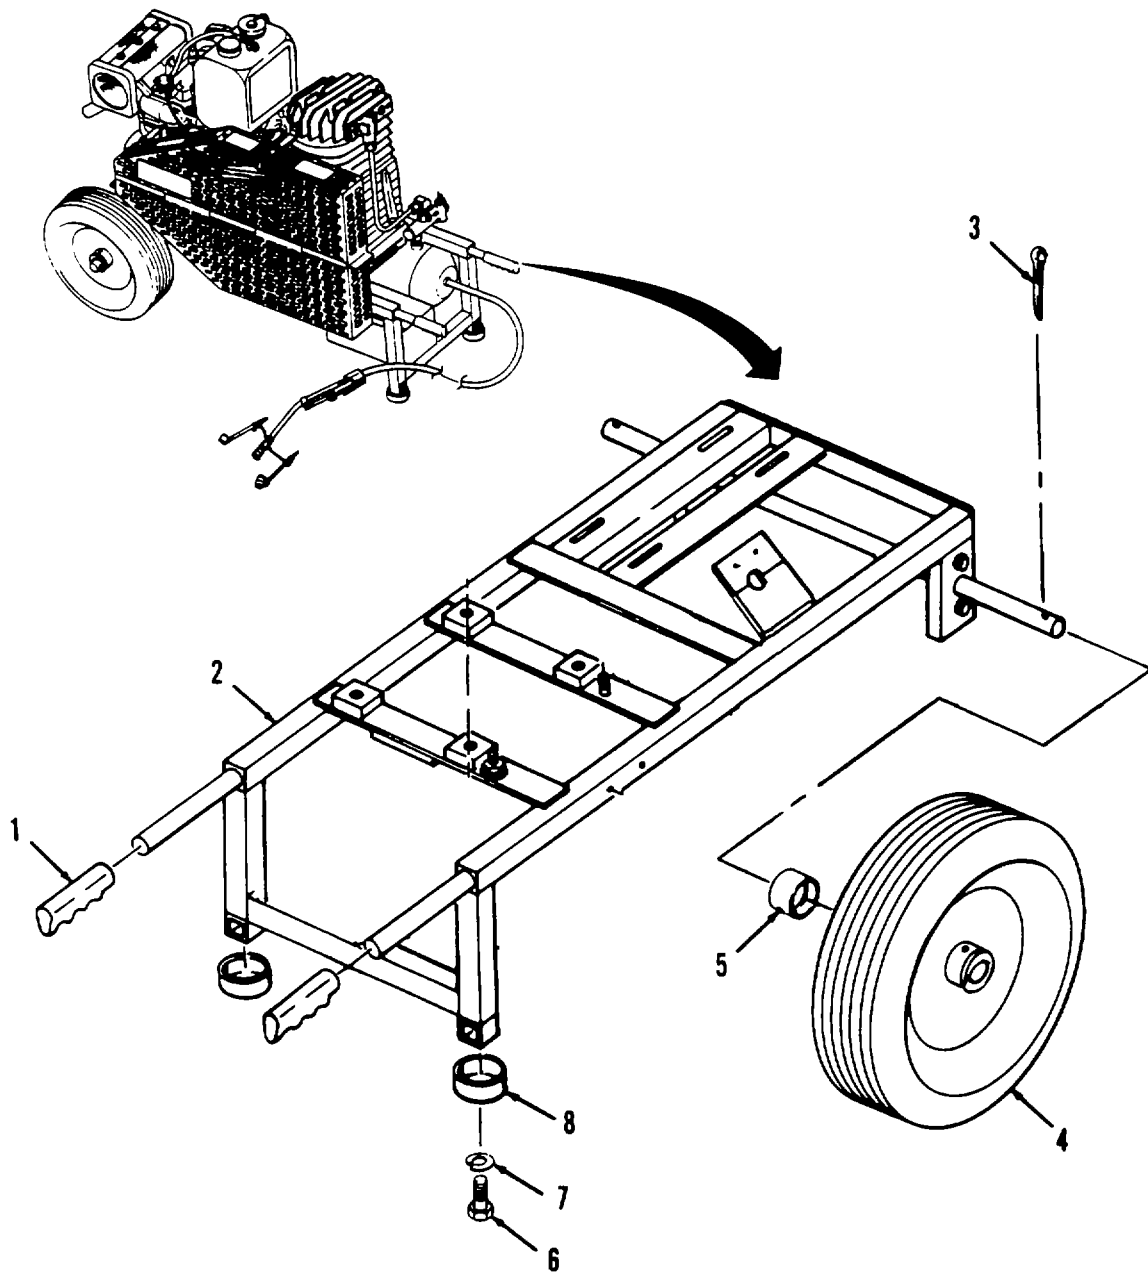

Figure 4-23. Handle Grips and Tire / Wheel Assemblies Replacement.
a. Removal. (Refer to Figure 4-23).**NOTE**
- (1) Inspect all metal parts for cracks and dents.
- (2) Check vibration mounts for excessive wear.
- (3) Check that wheel bearings operate smoothly.
c. Repair. Repair is limited to replacement of parts found defective during inspection.**d. Installation.** (Refer to Figure 4-23).
- (1) Install two vibration mounts (8), two lock washers (7), and two screws (6) onto chassis (2).
- (2) Install two spacers (5), two tire / wheel assemblies (4), and two new cotter pins (3) onto chassis (2).
- (3) Install two grips (1) onto chassis (2).